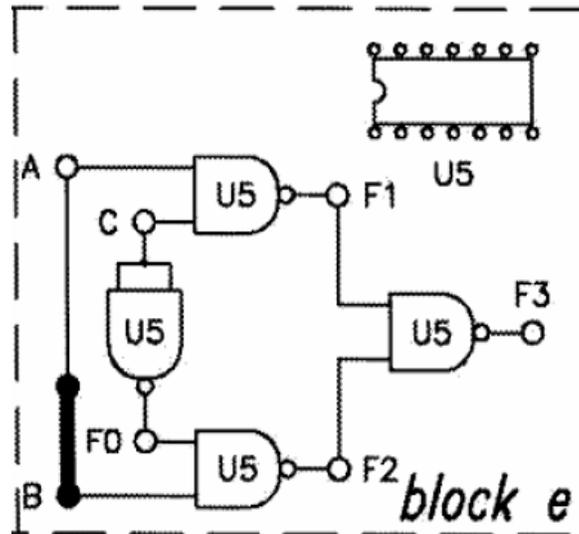

Figure.15: 1-to-2 Demultiplexer
1. Set the KL-26004 Module on the KL-22001 Basic Electricity Circuit Lab, and locate block e. Complete the connection by referring to the wiring diagram in Figure.15. Apply +5VDC from the Fixed Power on KL-22001 Lab to KL-26004 Module.